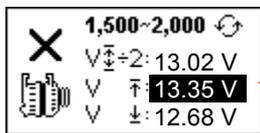

Fig. 48
11. If either minimum or maximum charging volts are not within the voltage range limits then it will highlight the result as shown on the examples below displays (Figures 48 & 49) and it will prompt you to check the alternator system for the fault.